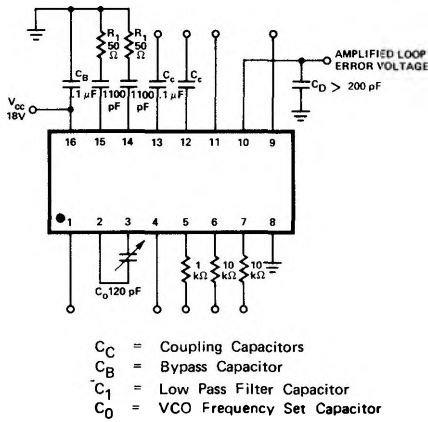

FIGURE 1
**ELECTRICAL CHARACTERISTICS (For Tracking Filter, Figure 1)** (15K $\Omega$  Pin 9 to GND, Input Pin 12 or Pin 13 AC Ground Unused Input, Optional Controls Not Connected, V+ = 18V Unless Otherwise Specified TA = 25°C)